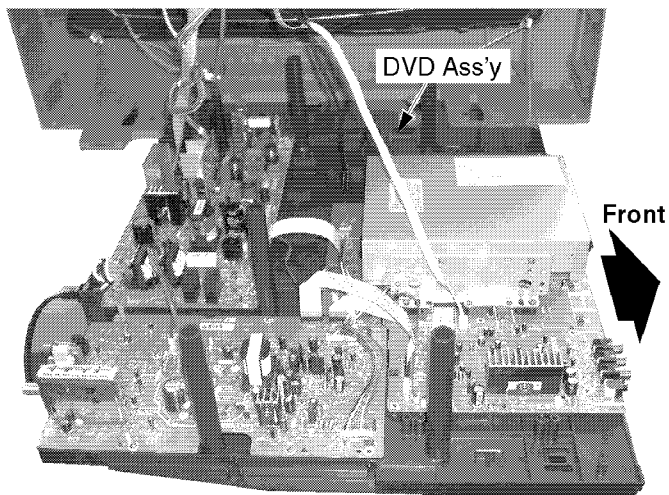

Fig. 6-1
1. Perform step 1 in Service Position (1) as shown in Fig. 6-1.